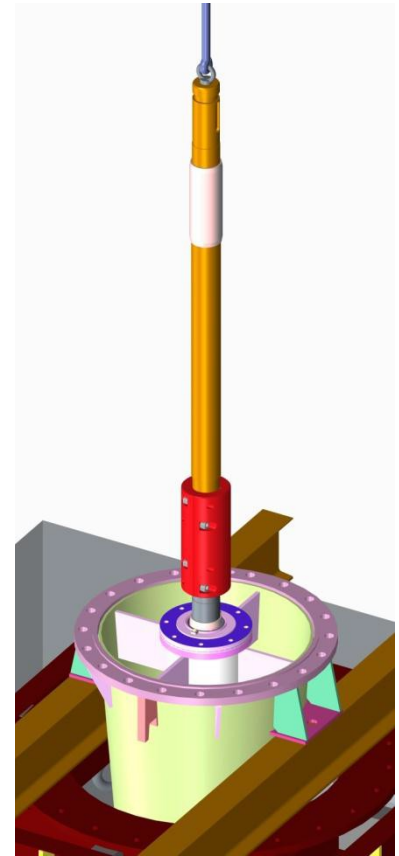

Figure 22 – Line Shaft Installation
Assemble an eye-bolt of suitable size in the top centre hole of the line shaft. Lift the Line Shaft assembly with this eye-bolt and position it over the lowered down Bowl Assembly. Couple the Line Shaft with the Impeller Shaft using the coupling on the end of Impeller shaft. See Figure 22 for reference.
- Hold the top shaft at the top as shown in Figure 22 first and then uncouple it to remove it very carefully. All the shafts must be disassembled in this way only to avoid any damage to them and check / inspect for their respective straightness.